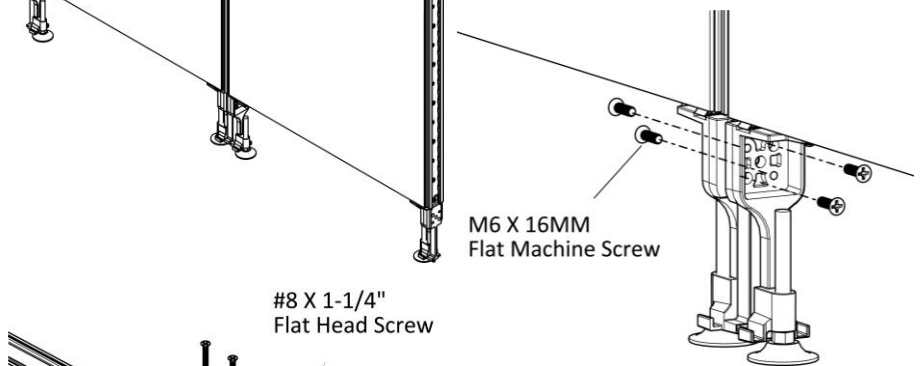

Figure 2
2. Securely fasten the panel legs with four M6 X 16MM Flat Machine Screws, (Figure 2).